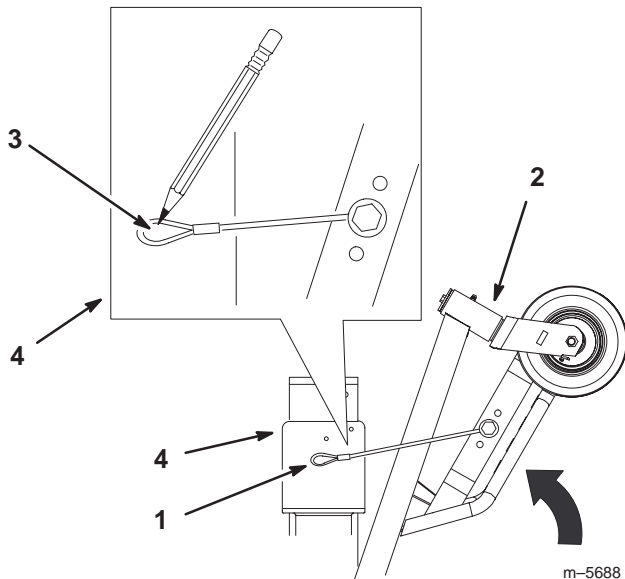

Figure 3
3. Install the nut (5/16 in.), small washer, spacer, lanyard and bolt (5/16 x 1-1/4 in.) (Fig. 3).
4. Raise the sulky and position the lanyard loop until it is in a clear location on the pulley guard, both on the outside and inside of the guard (Fig. 3).